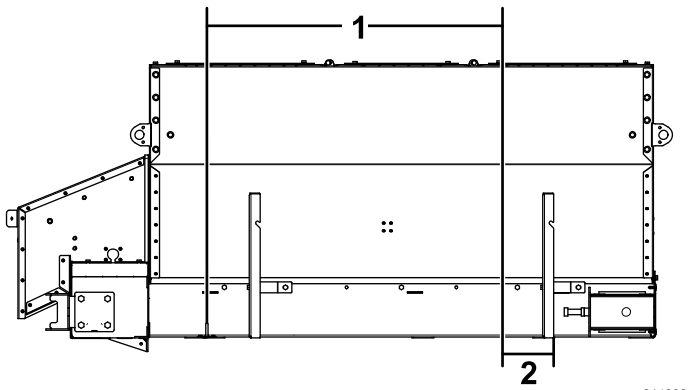

Figure 7
1. Mark and drill the holes (7/16 inch) for the D-rings starting with the rear D-rings as shown in Figure 7.